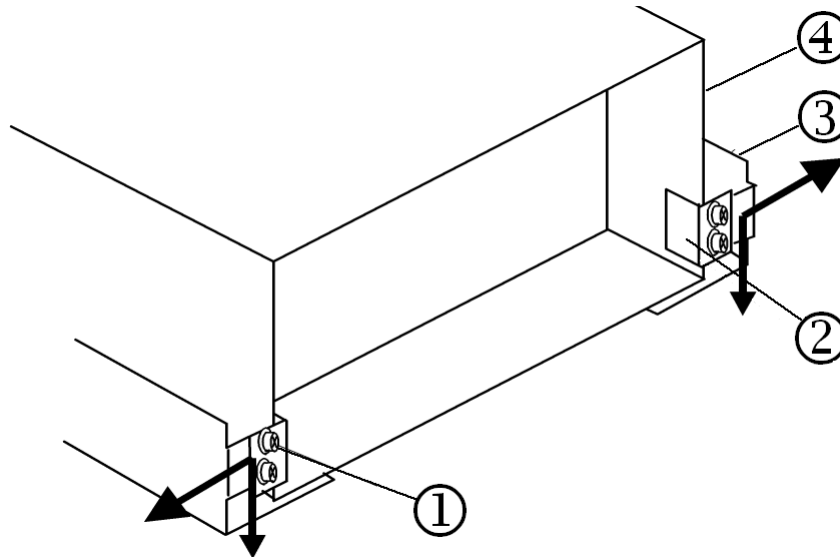

Figure 5-30: Securing Rear of the Array
①	Array	③	Mounting Slot	⑤	Rack Frame
②	Mounting Screw, M5-10	④	Nut	⑥	Rail
2. Fasten the rear side of the array to the rack rails, as shown in Figure 5-30.